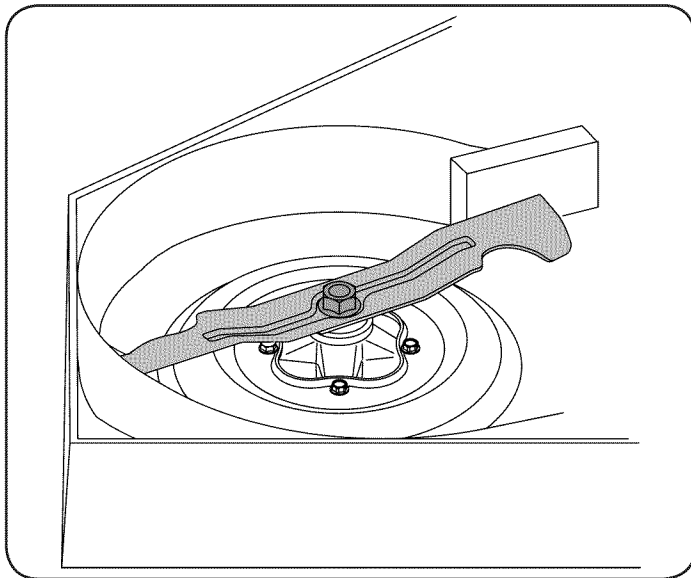

Figure 31
2. Use a 1-1/8" wrench to hold the hex nut on top of the spindle assembly when loosening the hex nut securing the blade. A block of wood may be placed between the deck housing and the cutting edge of the blade to help in breaking loose the hex nut securing the blade. See Figure 31.